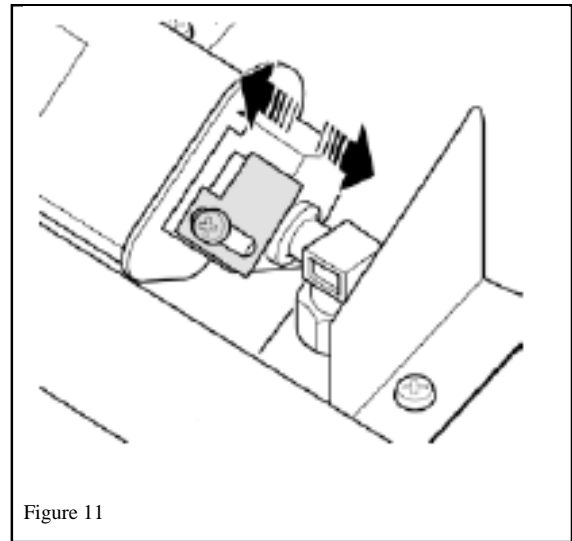

Figure 11
13. Fit the aeration shutter for natural gas set fully closed. See figure 11.